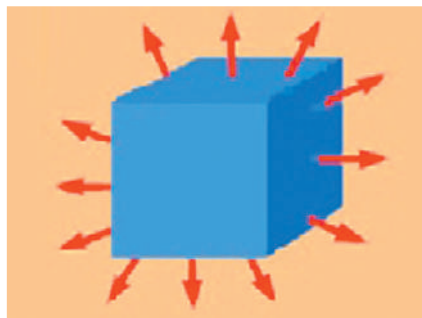

Figure 2.141 Radiation
- Radiation of heat occurs from the radiator and cooling fins when heat is dissipated to the atmosphere (Fig. 2.141).